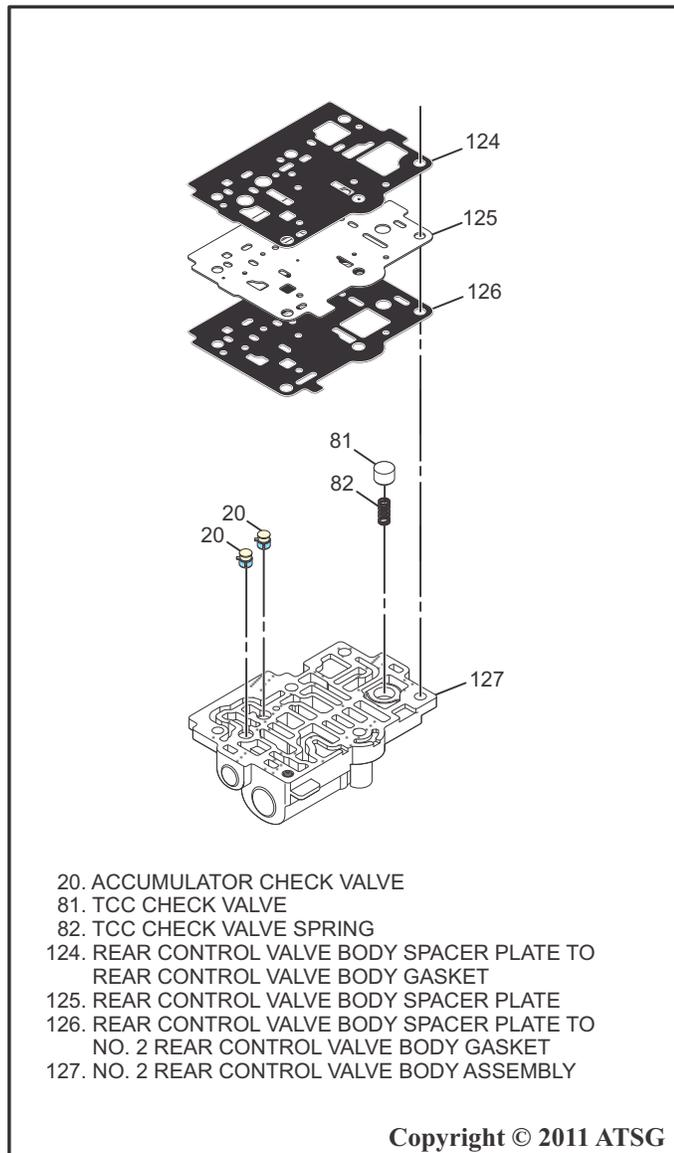

Figure 170
41. Install the two accumulator check valves into the No. 2 rear control valve body assembly, then install the TCC check valve spring and the TCC check valve as shown in Figure 170.
42. Install a new rear control valve body spacer plate to No. 2 rear control valve body gasket onto the No. 2 rear control valve body, then install the rear control valve body spacer plate and the rear control valve body spacer plate to rear control valve body gasket as shown in Figure 170.